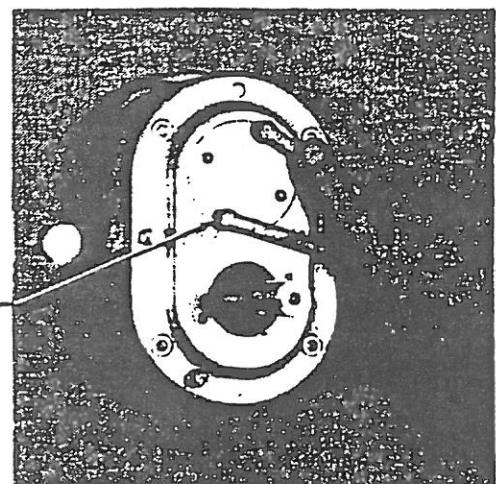

Fig.2
- Using a spanner wrench, tighten one bearing adjustment nut at a time (fig.2).